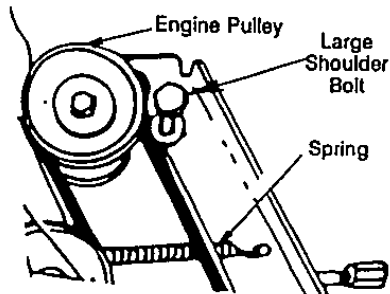

FIGURE 14
- Remove the large shoulder bolt and washer on the left hand side of the engine pulley with an adjustable wrench. See figure 14.
- a. Unhook extension spring from the belt cover plate. See figure 14.
- Reassemble the large shoulder bolt and lockwasher as shown in figure 14.